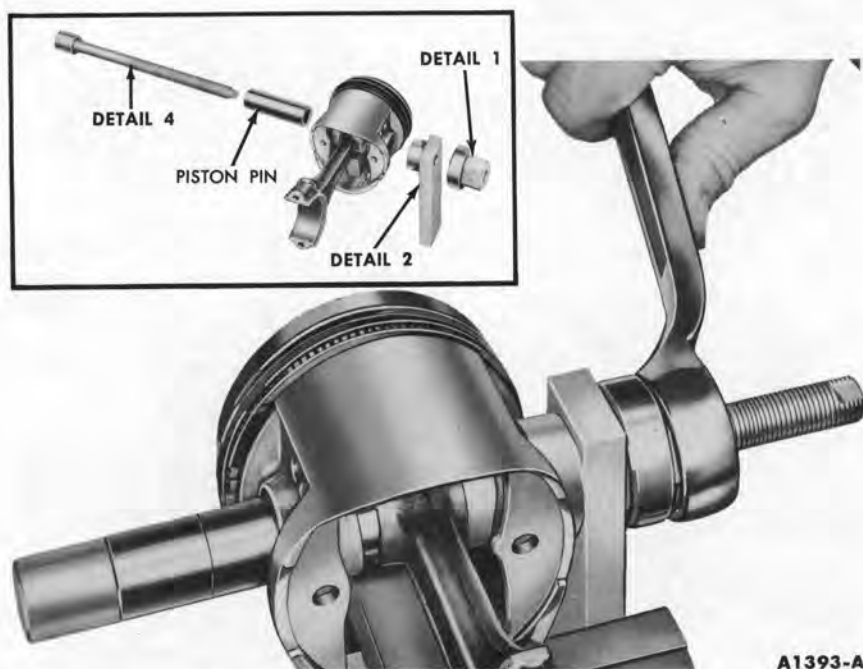

FIG. 60—Piston Pin Installation—Typical
2. Start the piston pin in the piston and connecting rod. Draw the piston pin through the piston and connecting rod until the end of the pin seats in Detail 2 (Fig. 60).